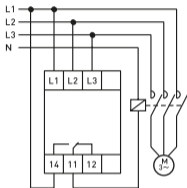

Figure 3 – Relay wiring diagram
2. Install the relay according to the wiring diagram (Figure 3);